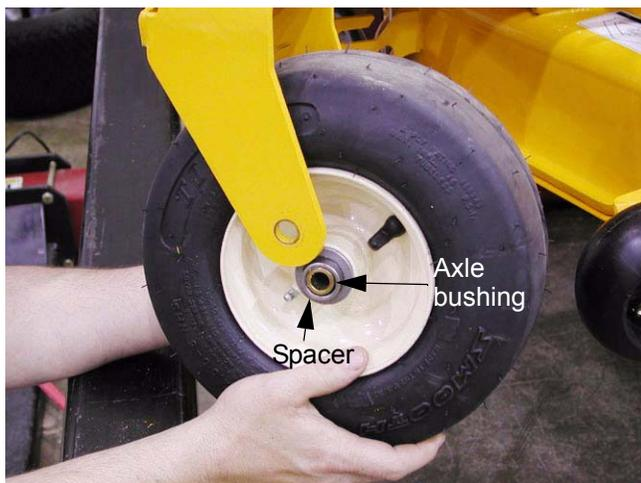

Figure 13.3
- 13.3. There is a spacer that fits over each side of the wheel bearing, keeping the wheel centered between the caster wheel mounting bracket. See Figure 13.3.